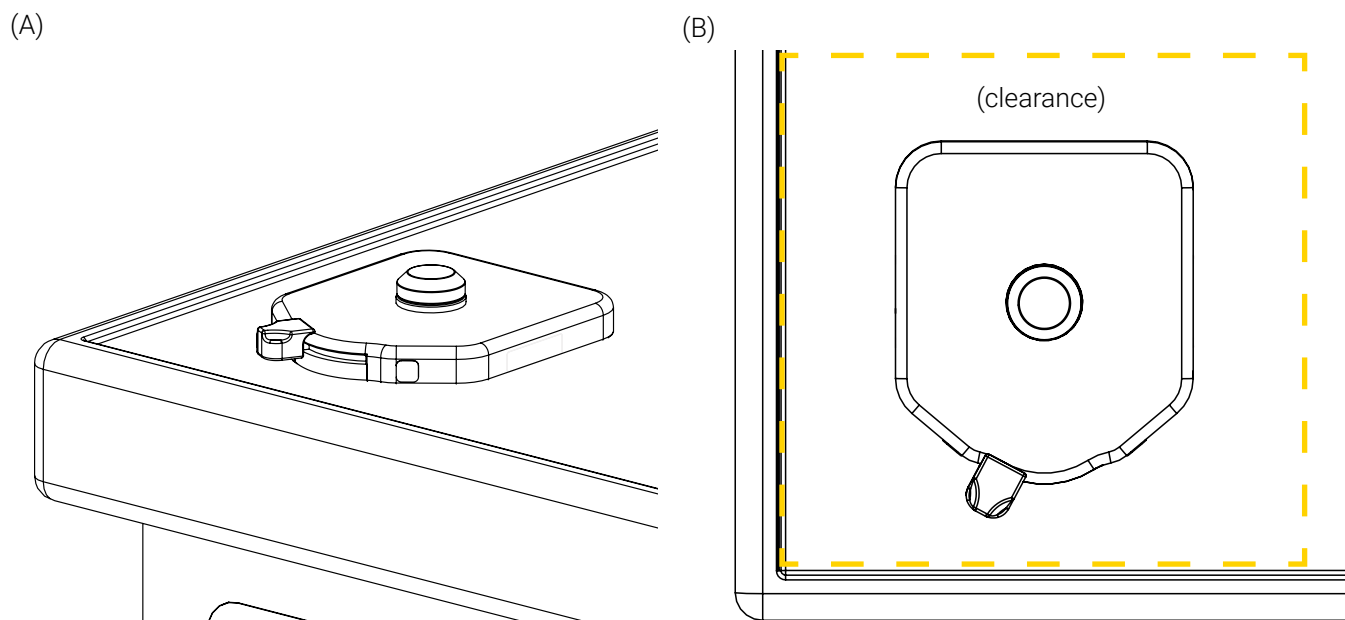

Figure 11: Installation of the base on a crash cart
3. Place the Universal Mounting Base on the installation surface, then from under the horizontal surface, secure the base using four (4) 10-32 in. stainless steel screws coated with medium strength thread lock adhesive and a screwdriver (Figure 11 A).
NOTE : Ensure to leave a clearance around the base that is sufficient to rotate the medical device up to 360° clockwise or counterclockwise (Figure 11 B). The clearance needed will depend on the size of the medical device and its mounting bracket, as well as the total Safe Working Load (SWL) of the base. Refer to the « Technical Specifications » section on page 13 if needed.